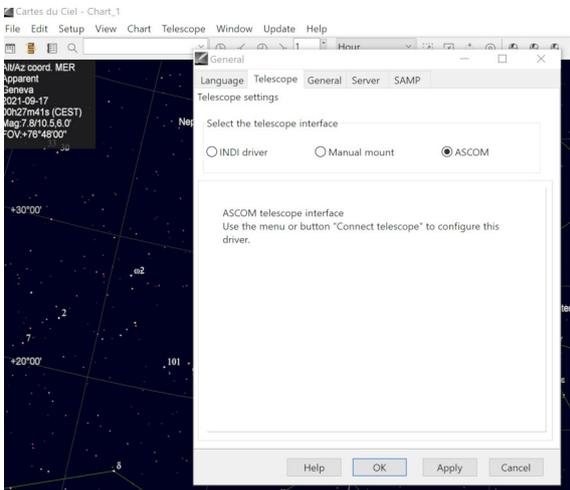

Figure 17: Selection of the *ASCOM* interface in *Cartes du Ciel*. Denote that *INDI* is available as well ...
- Go to *Telescope* → *Telescope Settings* and select *ASCOM* as the telescope interface (Fig. 17).